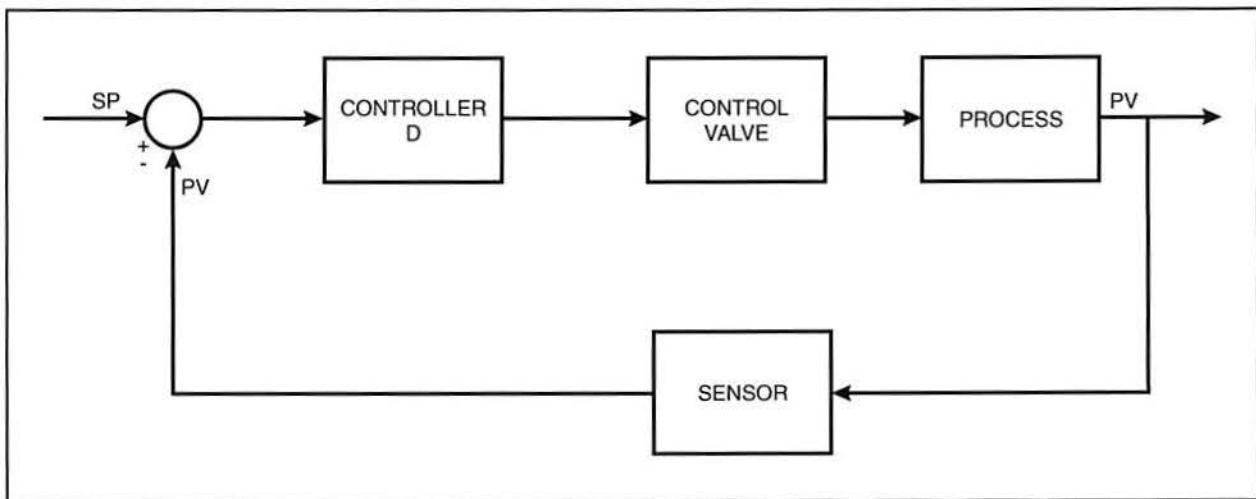

Figure 56. Block Diagram of a Process System Using Derivative Control
Figure 56 shows a block diagram of a process system that uses only derivative control. When a controller receives a changing error signal (i.e. an error signal that does not hold the same value over time), the derivative gain (D) in the controller increases the controller output according to how fast the signal is changing.